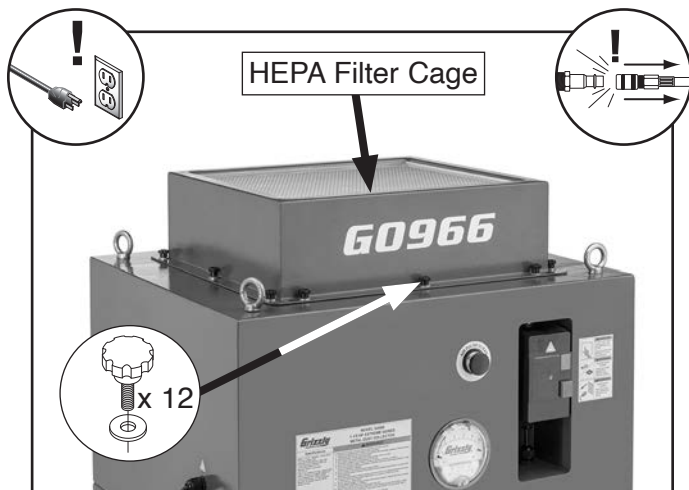

Figure 41. Location of HEPA filter cage knob bolts.
2. Remove (12) knob bolts and flat washers from HEPA filter cage (see **Figure 41**).